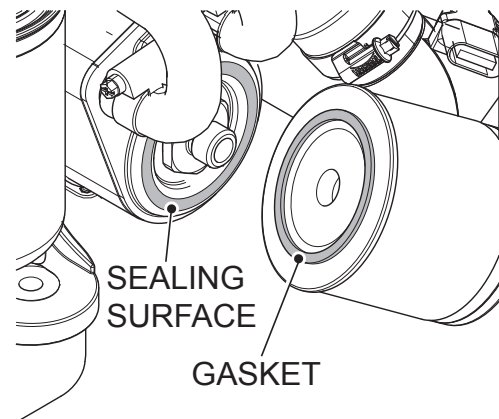

Figure 26. Changing Oil Filter
3. Thoroughly clean the sealing surface (Figure 26).